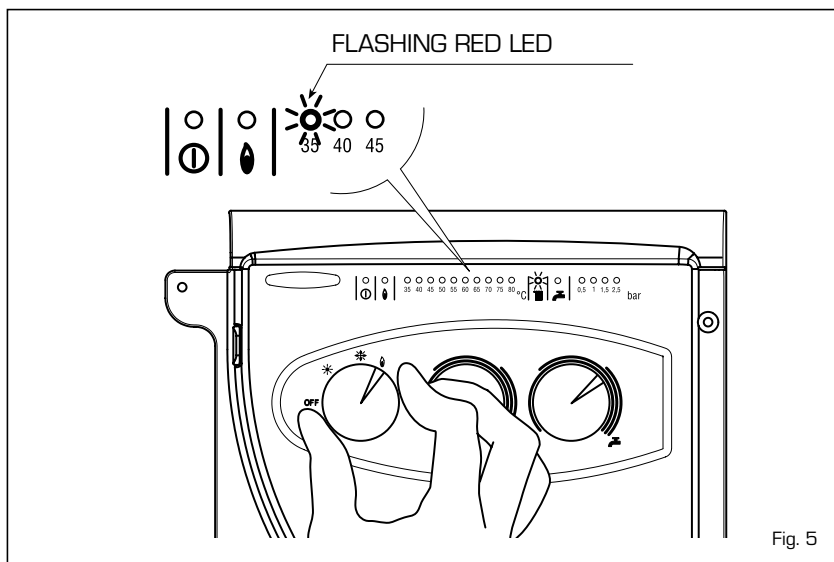

Fig. 5
- **Safety stat interception** (fig. 5)